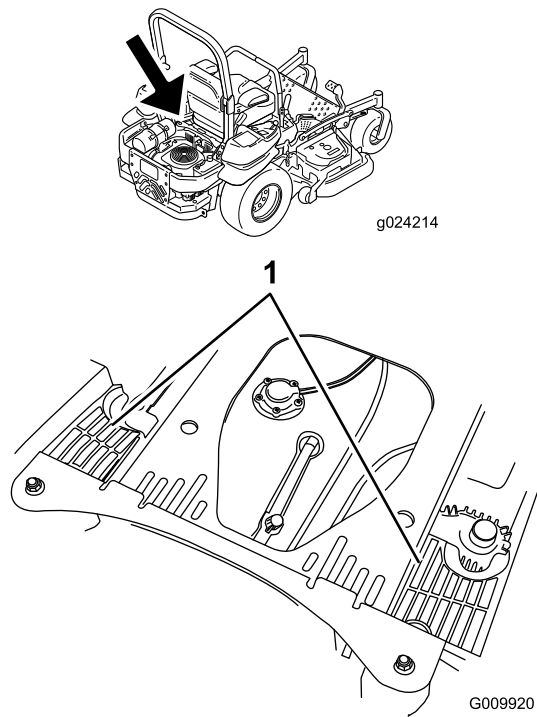

Figure 75
4. Clean the debris and grass from the hydraulic unit shrouds (Figure 75).